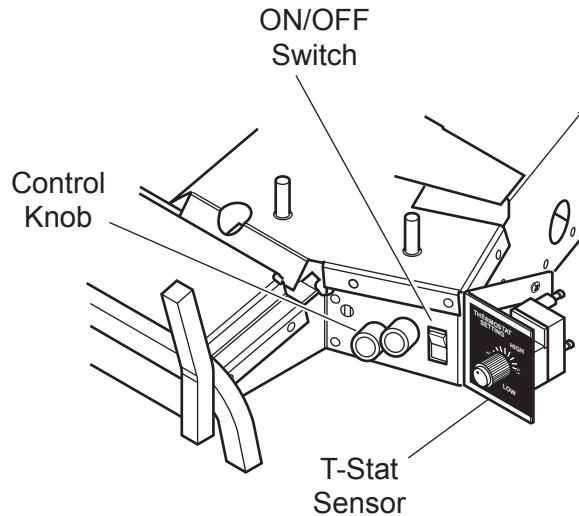

Figure 24 - Control Knob in "ON" Position and ON/OFF Switch in "OFF" Position
2. With control knob in the "ON" position make sure the ON/OFF switch is in the "OFF" position. See Figure 24.